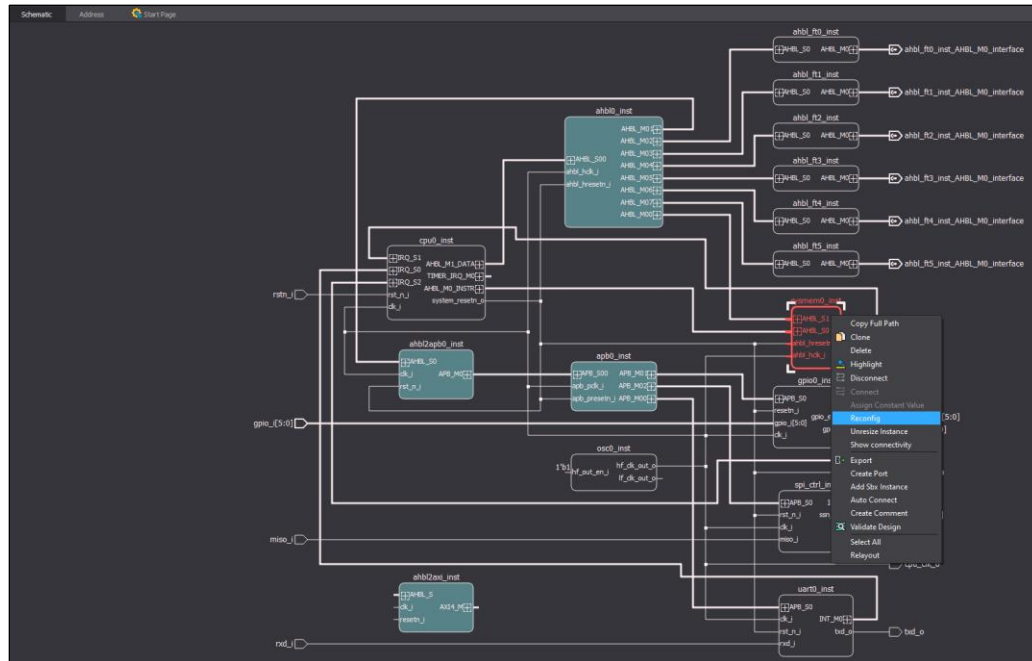

Figure 6.10. Locating System Memory Module and Selecting Reconfig
4. Locate the system memory module as shown in Figure 6.10 and select **Reconfig**. If a newer version of the system memory module is available, click **Yes** to update the IP to proceed.